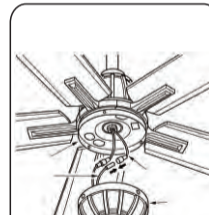

Fig.24
Step 5. Connect the wires between the fan and light kit with the connectors. (Fig.24)